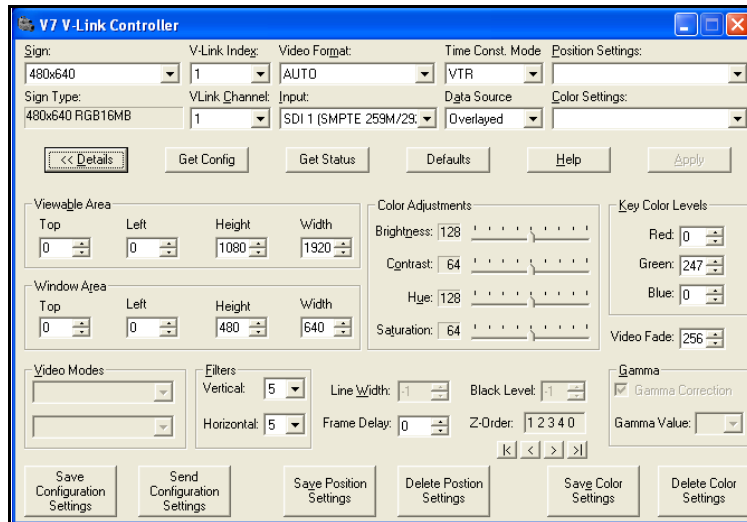

Figure 9: V7 V-Link Controller Dialog Box with Details
10. Click **Details** or press **[Alt] + [D]**. The *V7 VLink Controller* dialog box expands; refer to **Figure 9**.